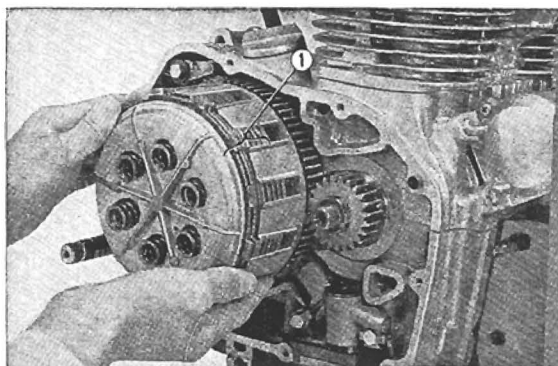

Fig. 3.84 Removing friction disc and clutch plates
- ① Friction disc and clutch plates
3. Unscrew the six 6mm bolts and remove the clutch spring pressure plate, friction disc and clutch plate. (Fig. 3.84)